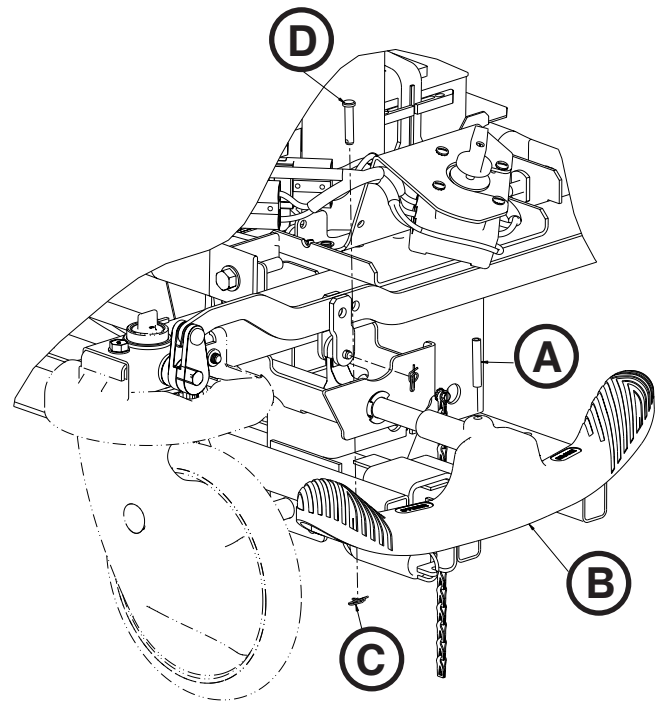
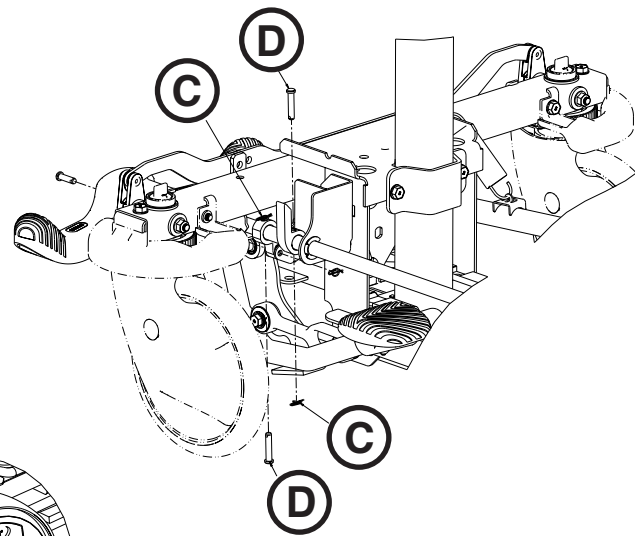

Figure 14
Figure 15
6. Using a hammer and a 7/32" #7 roll pin punch, remove the two slotted spring pins (A) from the brake pedals (B) to remove the pedals (Figure 14).
7. Using needle nose pliers, remove the rue ring cotters (C) and clevis pins (D) from the brake rod (Figure 14 and Figure 15).